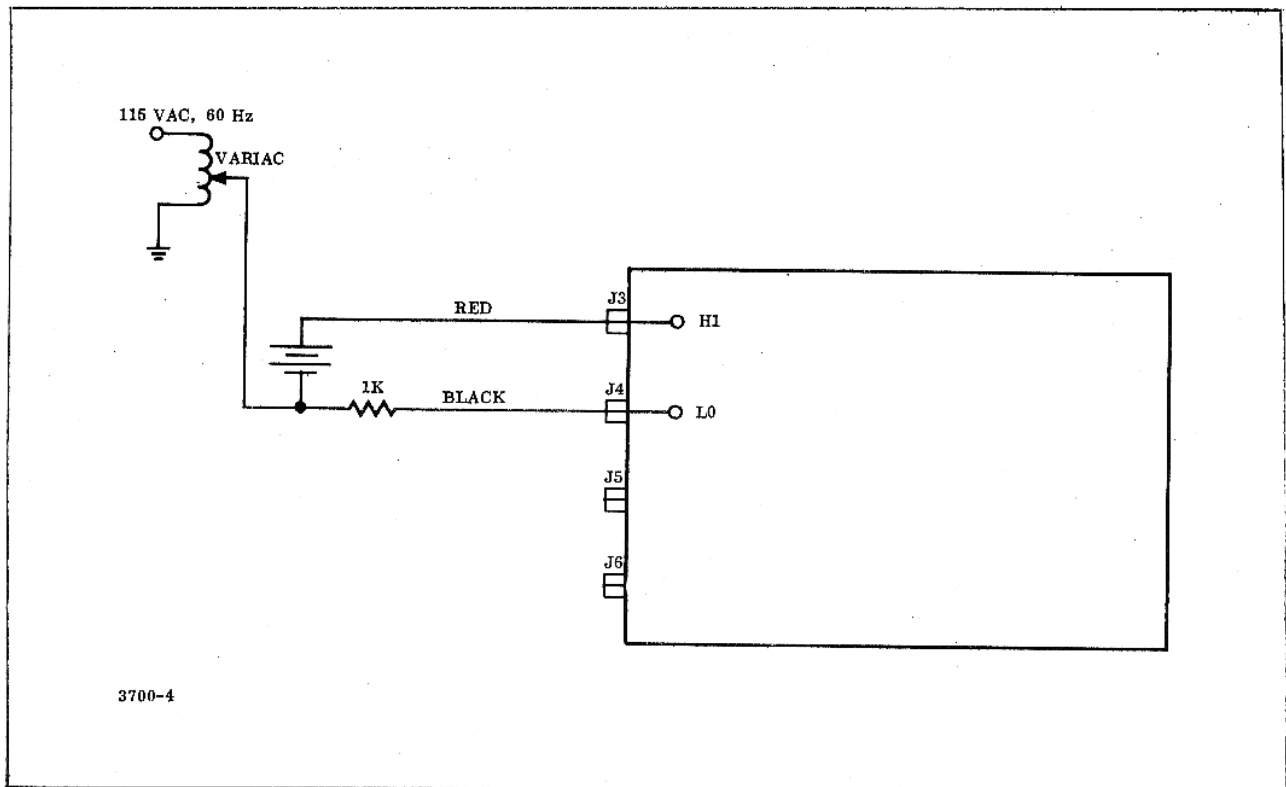

Figure 1-1. Connections to Determine CMR
3. Connect DVM to signal source and common-mode source as shown in Figure 1-1. Signal source is preferably a series string of three or four 1.5V batteries (flashlight cells or 1.3V mercury cells). To obtain an accurate measurement of CMR, the source resistance of the signal source should be less than 10 ohms. The output of a variac, connected as shown in Figure 1-1, will adequately provide the required common-mode source.